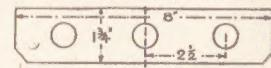

Fig. 3—The pipe rack
The outline of the pipe rack shelf (E) is given in detail in Fig. 3. The holes for the pipes should be  $\frac{1}{2}$  in. diameter and should preferably be made with the brace and bit, although holes cut with the fretsaw can be quite cleanly cut if sufficient care be taken. Glue and screw the rack on and then proceed to make the drawer.